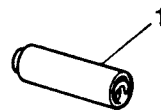

Fig C5.15
- (8) Refer to Fig C5.15. Remove the short rebound spring (1) from the piston.